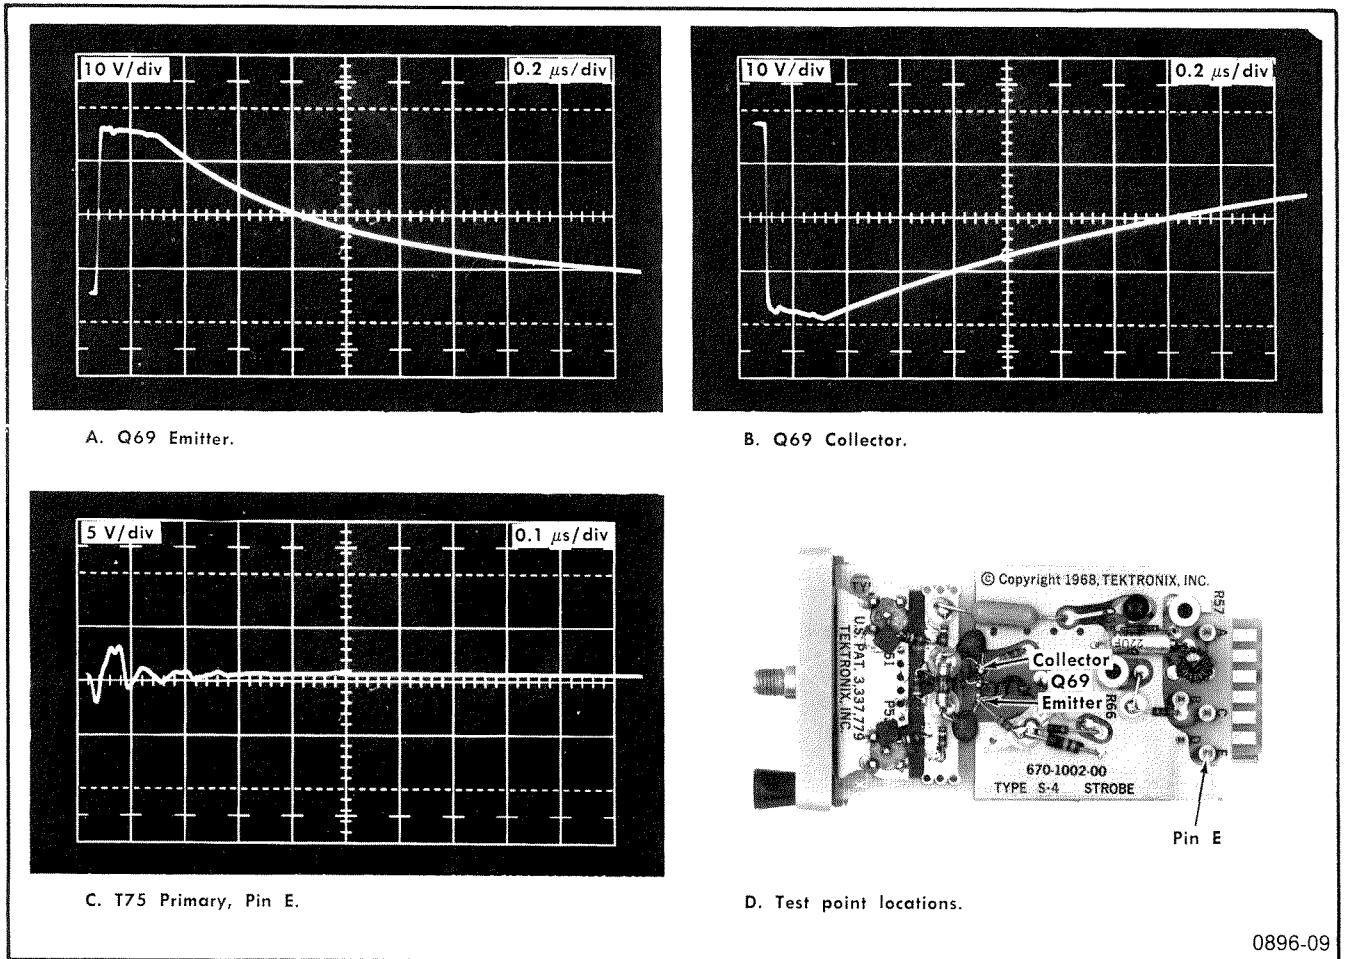

Fig. 4-2. Typical displays for Q69 operation.
d. Check for proper strobe operation by connecting a 10 $\times$ probe from the test oscilloscope to the emitter of Avalanche transistor Q69. Amplitude of the waveforms is affected by adjustment of Avalanche Volts control R66. Check the waveforms at the collector of Q69 and at the Primary of T75 (Pin E of the Strobe Board). Typical displays are shown in Fig. 4-2.